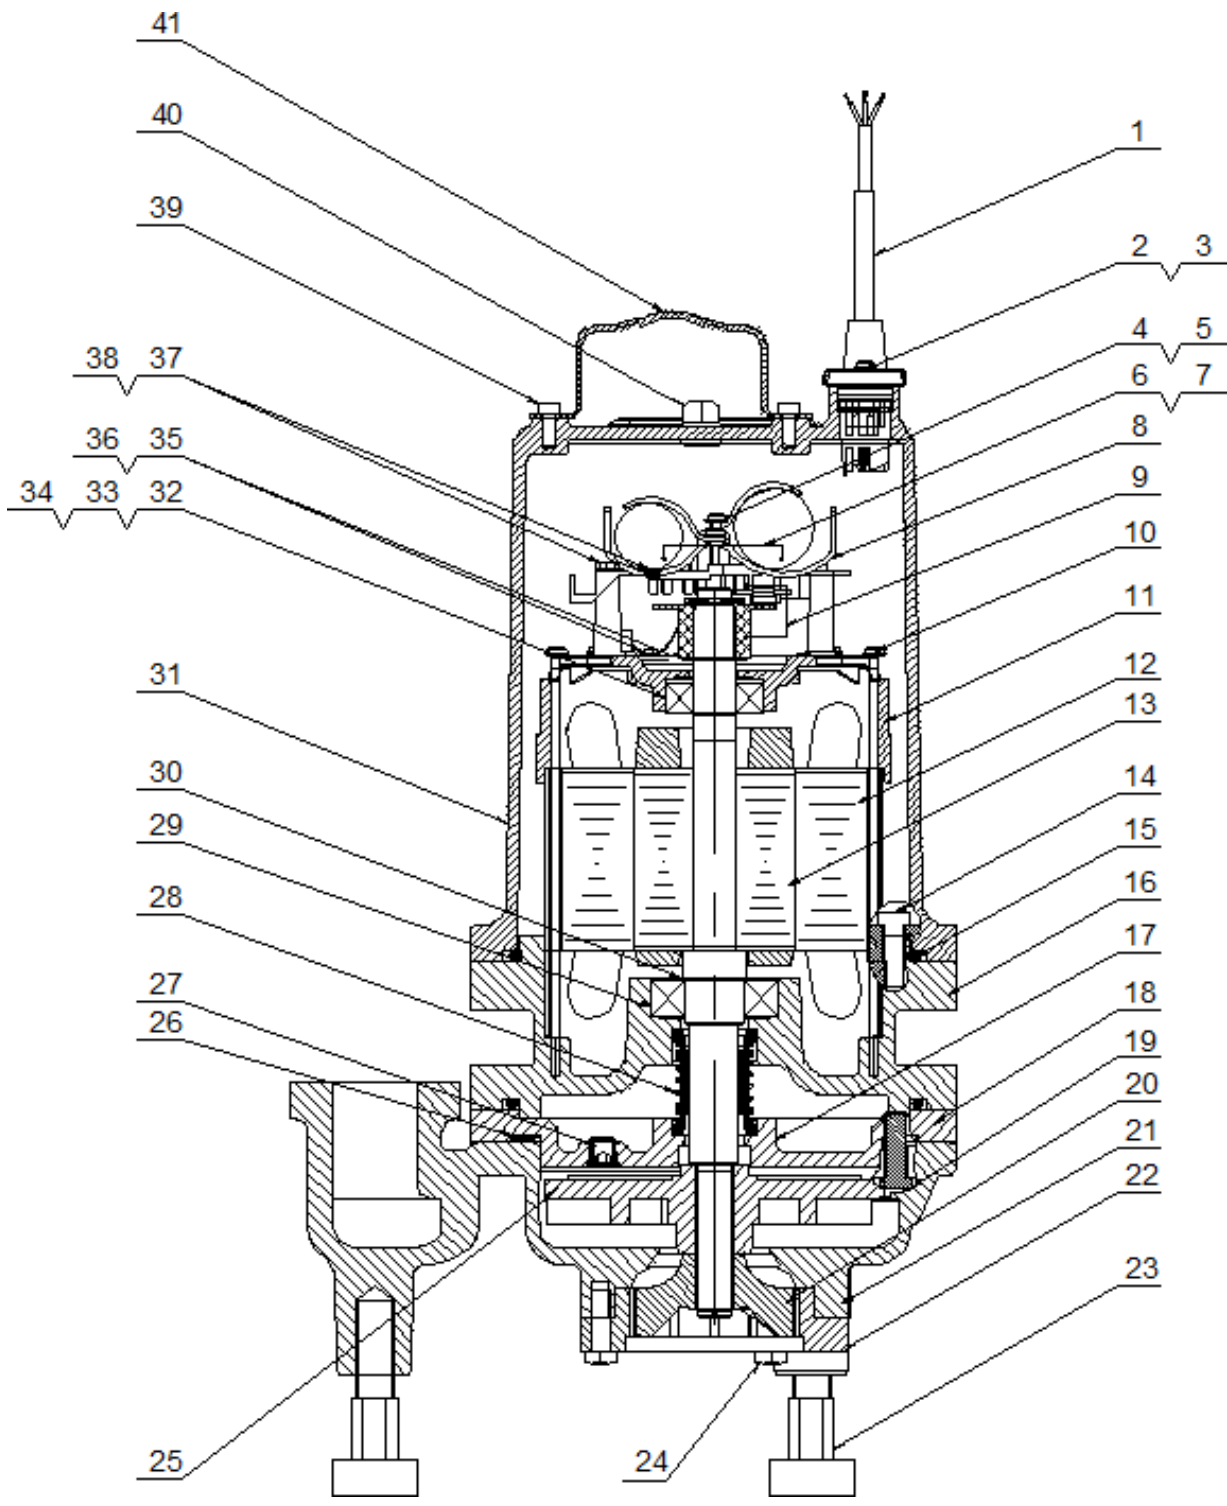

Figure 4
**NOTE:** Item numbers in ( ) refer to Figures 4&5.